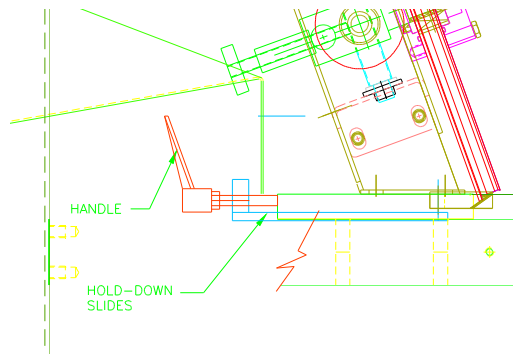

Figure 10. *Quick Disconnect Blade Guide.*
1. Loosen the two threaded handles located beneath the exit guard by turning them counterclockwise (See Figure 10). Push the two handles forward towards the entry side of the slicer to release the pins from the hold-down slides.